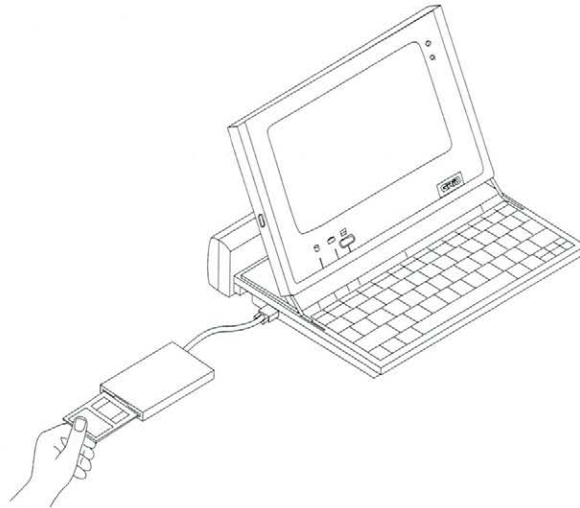

Figure 5-11. Inserting a Floppy Diskette into the Drive
2. Hold the diskette so that the side with the larger label is up. An arrow on the diskette points in the direction you should insert the diskette. The shutter goes in first (see Figure 5-11).